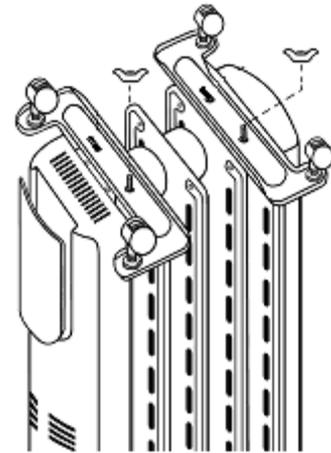

Fig. 3
2. On the OIL5 models, note the correct position of the anti-topple castors. The wings on the brackets must be pointing outwards, away from the radiator. Refer to fig.3.